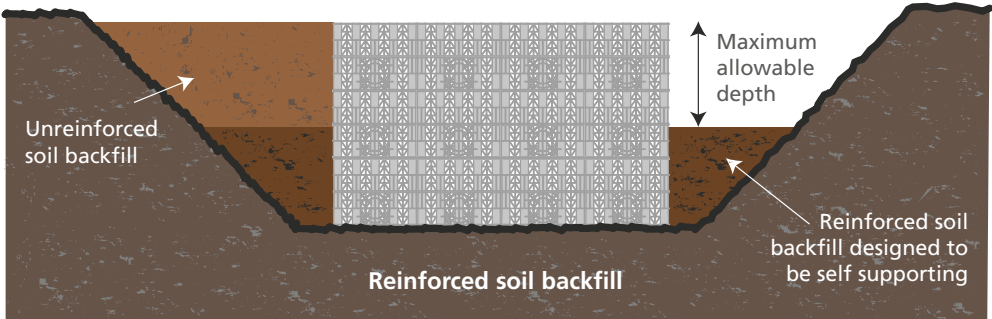

Figure 20
3. Reinforce the lower part of the backfill with geogrids (Figure 20).